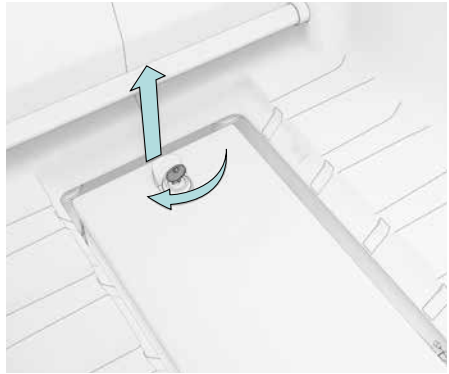

Fig. 12
2. Open the lock and fold up the cover of the battery safe (Fig 12).